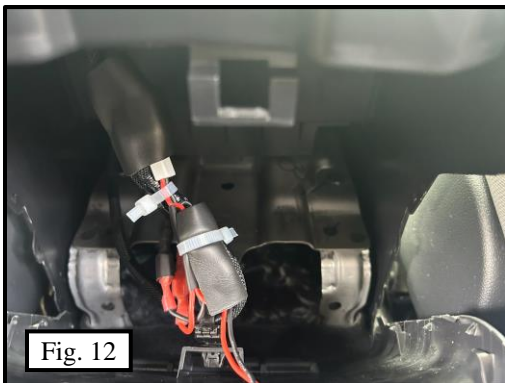

Fig. 13
- (b.) Attach the clip and claw to install the rear console end panel sub-assembly in the direction indicated by the arrow shown in the illustration (Fig. 13).
⚠ NOTE: Ensure wire harness bundle does not interfere with clips (Fig. 13) nor weld stud when reassembling the rear panel to the console box.